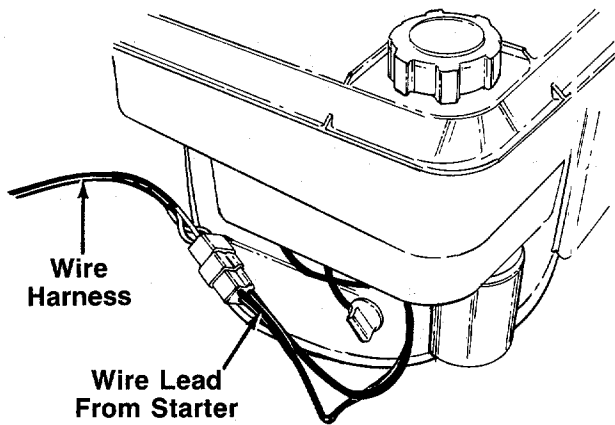

FIGURE 7.
13. Plug the end of the wire lead coming from the starter on the engine into the plug on the end of the wire harness. See figure 7.